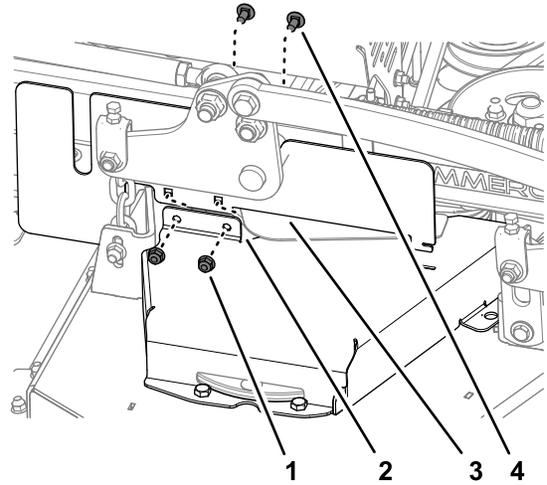

Figure 41
2. Assemble the right side CE cover to the right belt cover (Figure 41) with the 2 carriage bolts and 2 lock nuts that you removed in Removing the Left Belt Cover (page 28).